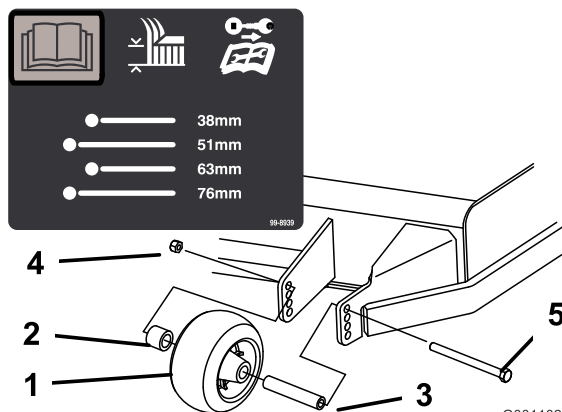
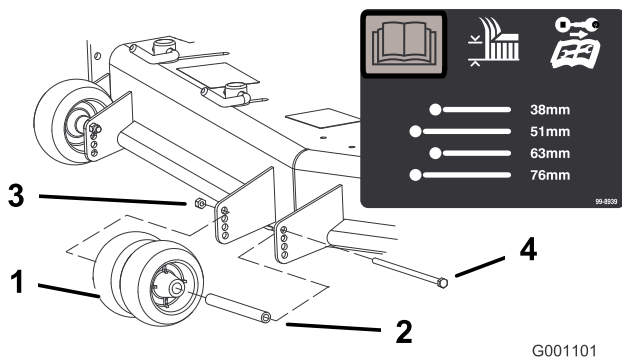
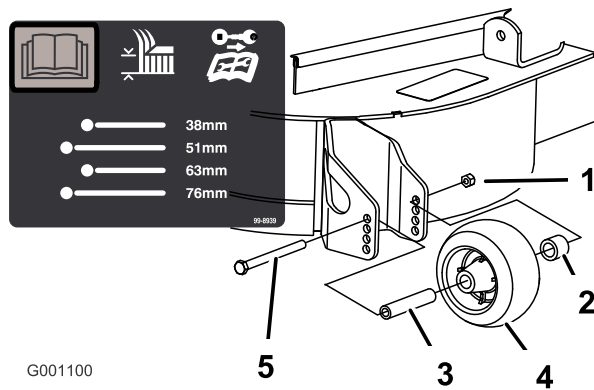

Figure 20
Figure 21
Figure 22
3. After adjusting the height of cut, adjust the rollers by removing the flange nut, bushing, spacer, and bolt (Figure 20, Figure 21, and Figure 22).
Note: The 2 middle rollers do not have a spacer (Figure 21).
5. Install the flange nut, bushing, spacer, and bolt. Torque the bolt to 54 to 61 N·m (40 to 45 ft·lb) (Figure 20, Figure 21, and Figure 22).